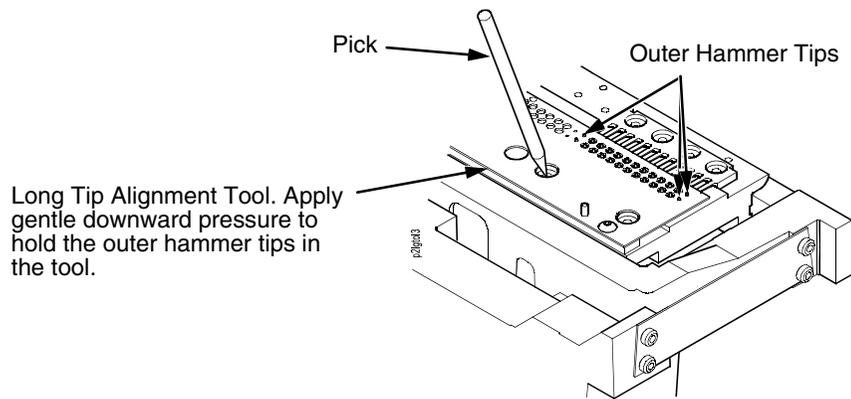

Figure 31. Using the Pick to Maneuver the Hammer Tips into the Alignment Tool Holes
6. Apply a slight, continuous downward pressure to the alignment tool and gently swivel the alignment pick in the hammer spring mounting holes to maneuver the hammer tips into the tiny holes in the alignment tool. You will feel/hear a small “click” when the hammer tips slip into the holes. Use the pick to set the outer hammer tips of both facing assemblies. (See Figure 31.)